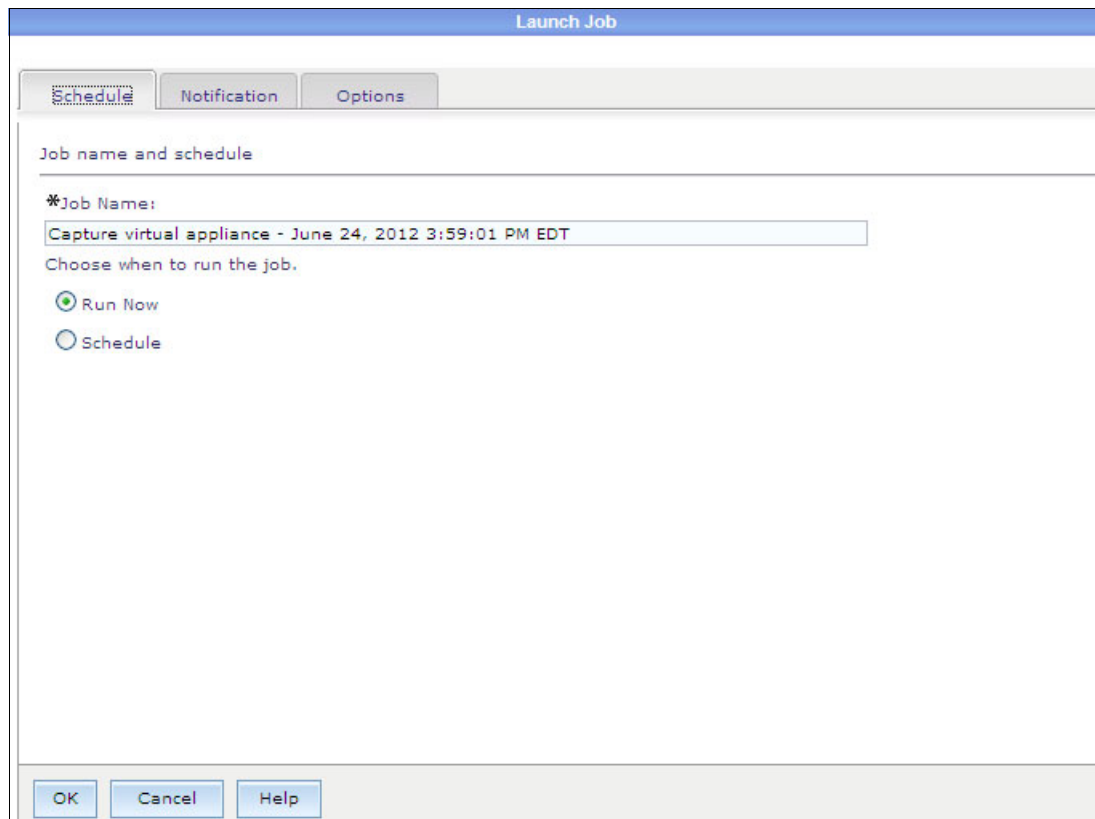

Figure 10-73 Capture: Launch Job
8. Figure 10-73 shows the Launch Job menu.